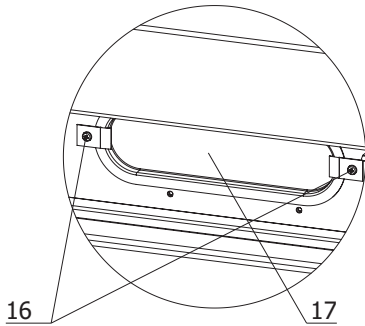
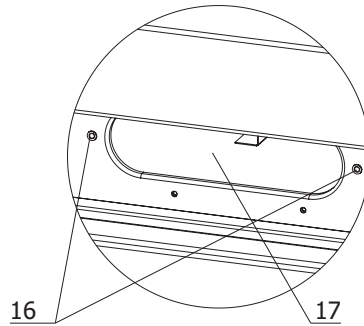

Figure 9a.
Figure 9b.
Cleaning of flue gas passages below the oven - Remove the panel below the oven door (Fig. 1, item 14). Unscrew the two screws (Fig. 9a, item 16), then remove the cleaning opening cover (Fig. 9a, item 17). Through the opening on the front side of the stove (Fig. 9b), use auxiliary tools to remove soot deposits from the surface beneath the oven bottom. After cleaning, reassemble all removed parts in the reverse order.